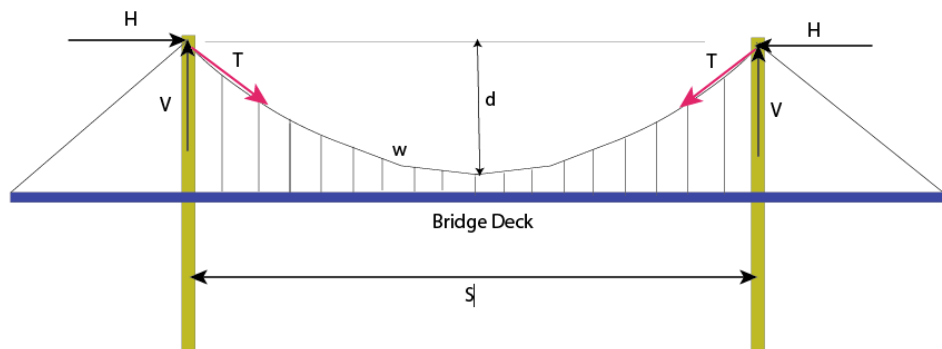

Figure 3. Suspension Bridge.
Figure 3 illustrates the basic forces acting on a suspension bridge. The weight per unit length (w) is 125 kN/meter for the bridge in question. Formulas to calculate the horizontal (H) and vertical (V) forces acting on the bridge tower are: